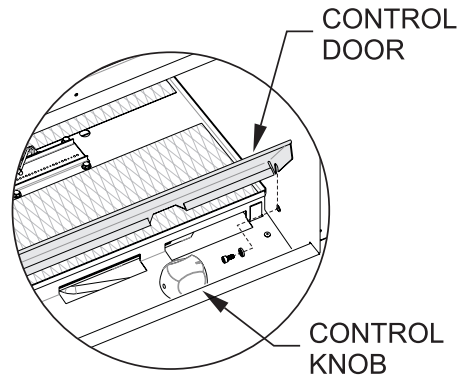

Figure 17
8. To connect the gas line and install the electrical connection, the burner assembly must be tilted upward in the fireplace. To lift the burner assembly, remove the control door by opening the door and lifting it upward to disengage the slots on the door from the pivot pins.. Remove the two control door pivot bolts and washers. See Figure 17.